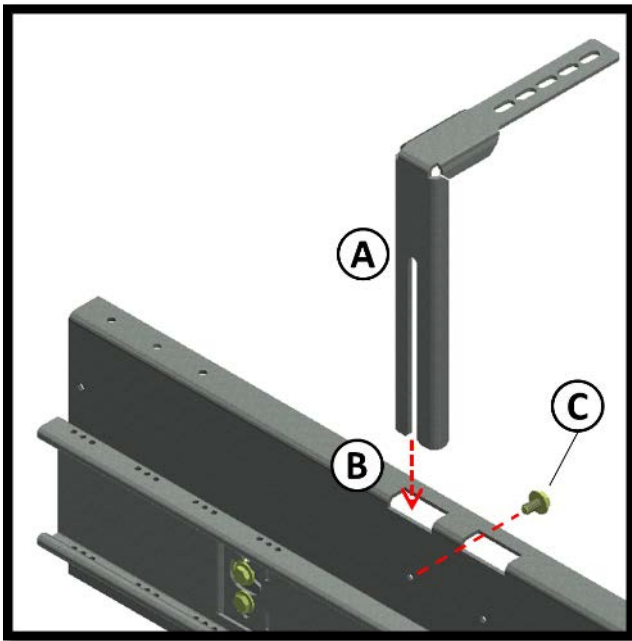

Figure 3: Installation of Header Cab Support Straps
As shown in Figure 3, slide each header cab support strap (A) through each opening (B) in the top flange of the header, and over the corresponding 5/16-18 socket, until the top flat part of the strap rests on the elevator cab. Insert and tighten each 5/16-18 (C) in the back of the header. Secure each strap to the top of the cab using 5/16-18 bolts.